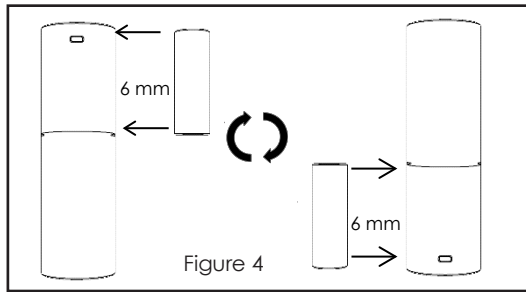

Figure 4
1. Please make sure that the sensor and magnet is located less than 6 mm (0.25 inch) from each other (Figure 4). For optimal performance, it is highly recommended to install the Door/Window sensor on the fixed frame and the magnet on the moving part of the door/window, rotate if necessary. Place the sensor near the top of the door that close to the opening edge of the door. This is the mounting location for the sensor.
4. Use provided double-sided tape on the magnet. Make sure the alignment of both sensor and magnet is correct. The magnet aligns from the top of the sensor case near the button and LED (Figure 4). Press firmly and hold in place for a few seconds. If the spacer is used, it can be mounted to the door using screws and/or double-sided tape before attaching the magnet. Secure tape-mounted parts with silicone if needed.